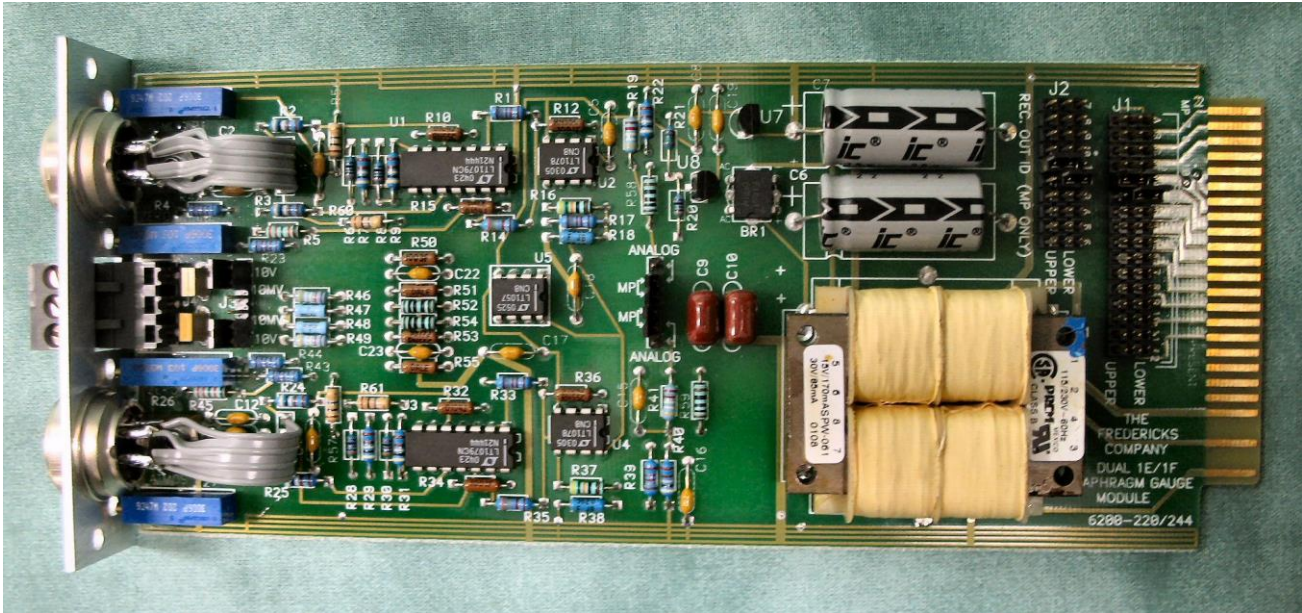

Fig. 9.5a - Diaphragm Module
**DIAPHRAGM MODULES-** Diaphragm modules are shown in Fig. 9.5a and 9.5b. This module is typical of all modules. The assignment of station identification numbers on a diaphragm module is accomplished by placing jumpers across the appropriate pins in the SIGNAL ID and the REC OUT ID sections. The upper diaphragm station has been named station #3 and the lower thermocouple station has been named station #4 as an example. Do not duplicate station # assignments with other modules. Also two (2) jumpers are placed in the "MP" positions of the ANALOG/MP section of the board.